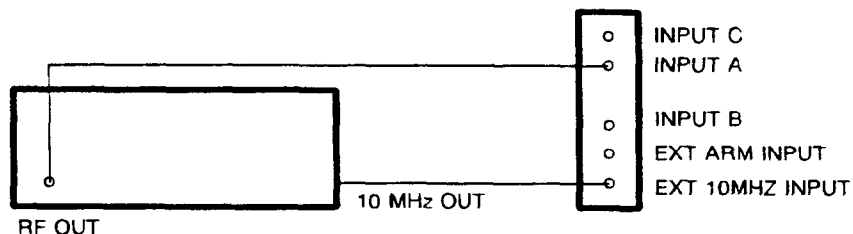

Figure 5-2. Input A High Frequency Sensitivity Test Configuration
5. Connect the Signal Generator to the VX4223 as shown in Figure 5-2.